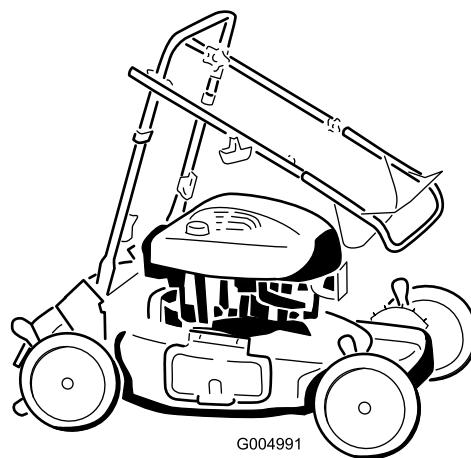

Figure 30
2. Fold the upper handle forward as shown in Figure 30.